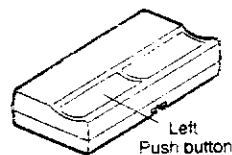

Figure 1
1. Press and hold the left remote control push button. See Figure 1.